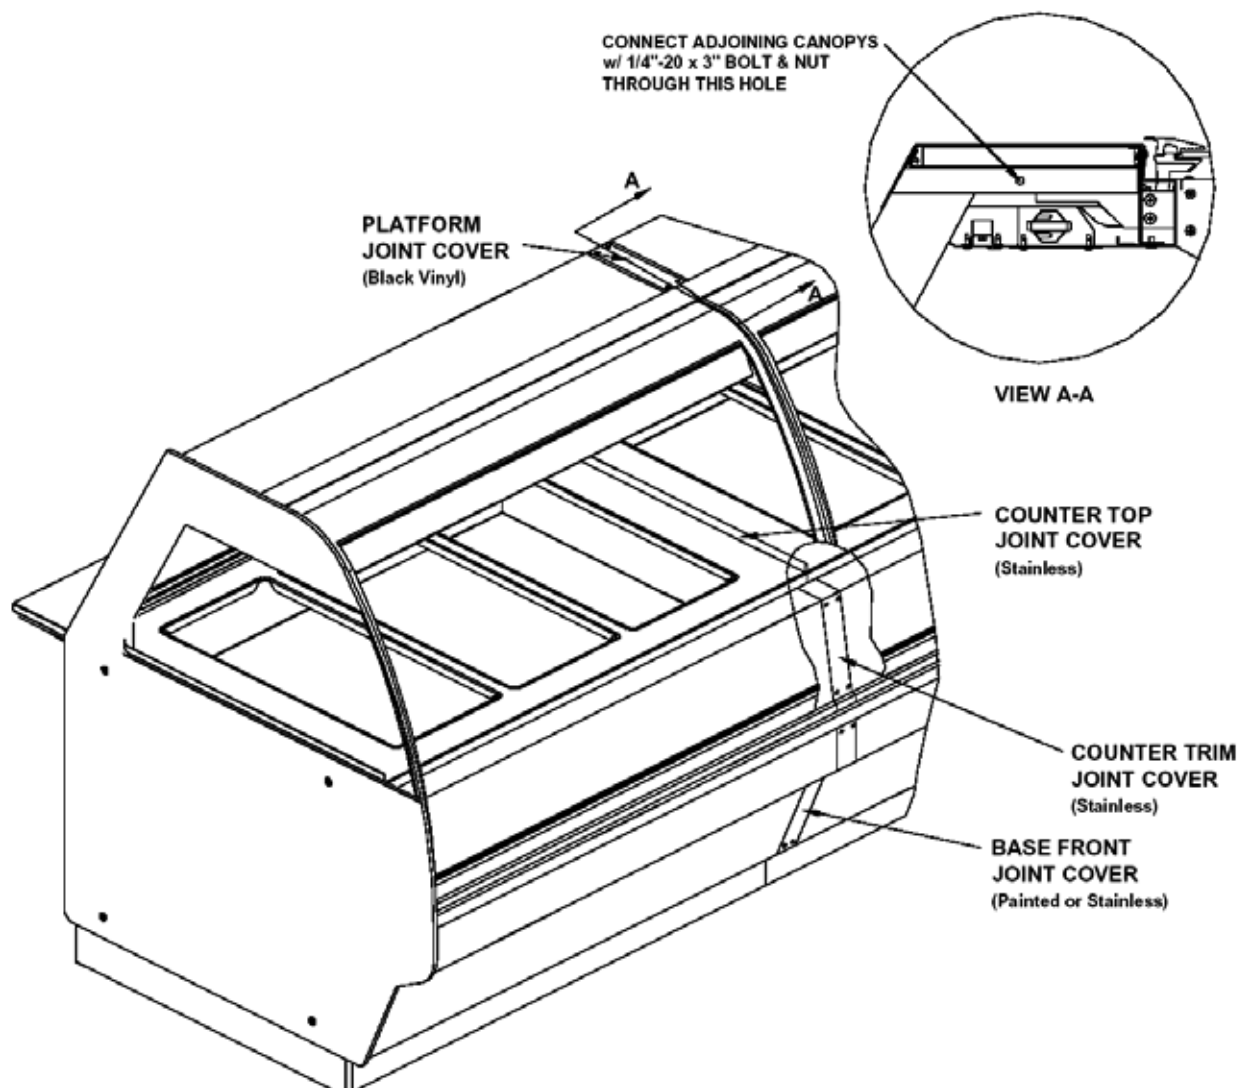

Figure 6. Joining WDCTY Cases
3. Connect the canopies using the $\frac{1}{4}$ "-20 X 3" bolt and nut provided (see Figure 6, View A-A). Replace the top inside covers.